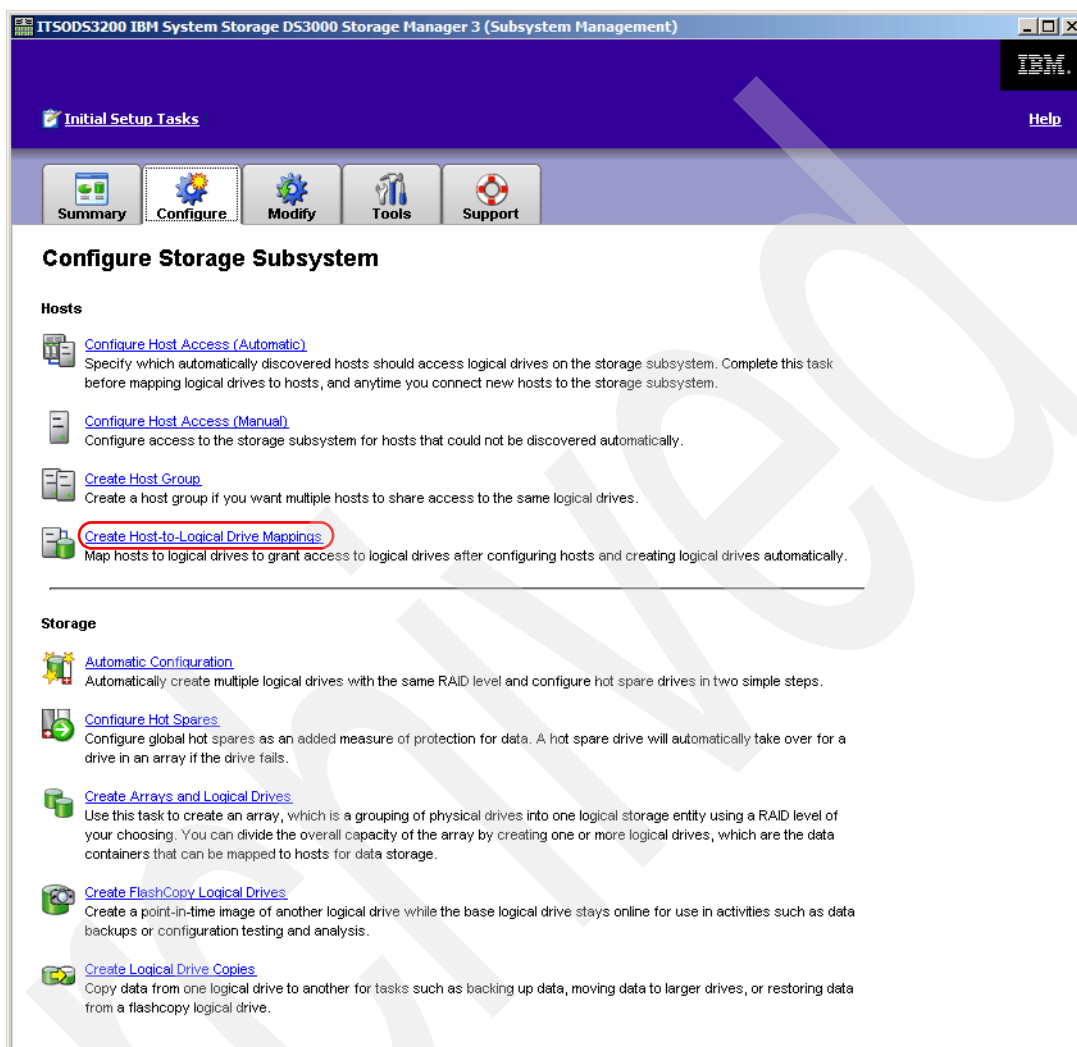

Figure 20-32 Create Host-to-Logical Drive Mappings
9. We now proceed with creating the host-to-logical drive mapping. Select **Create Host-to-Logical Drive Mappings** from the Configure tab in the DS3200 Subsystem Management window, as shown in Figure 20-32.